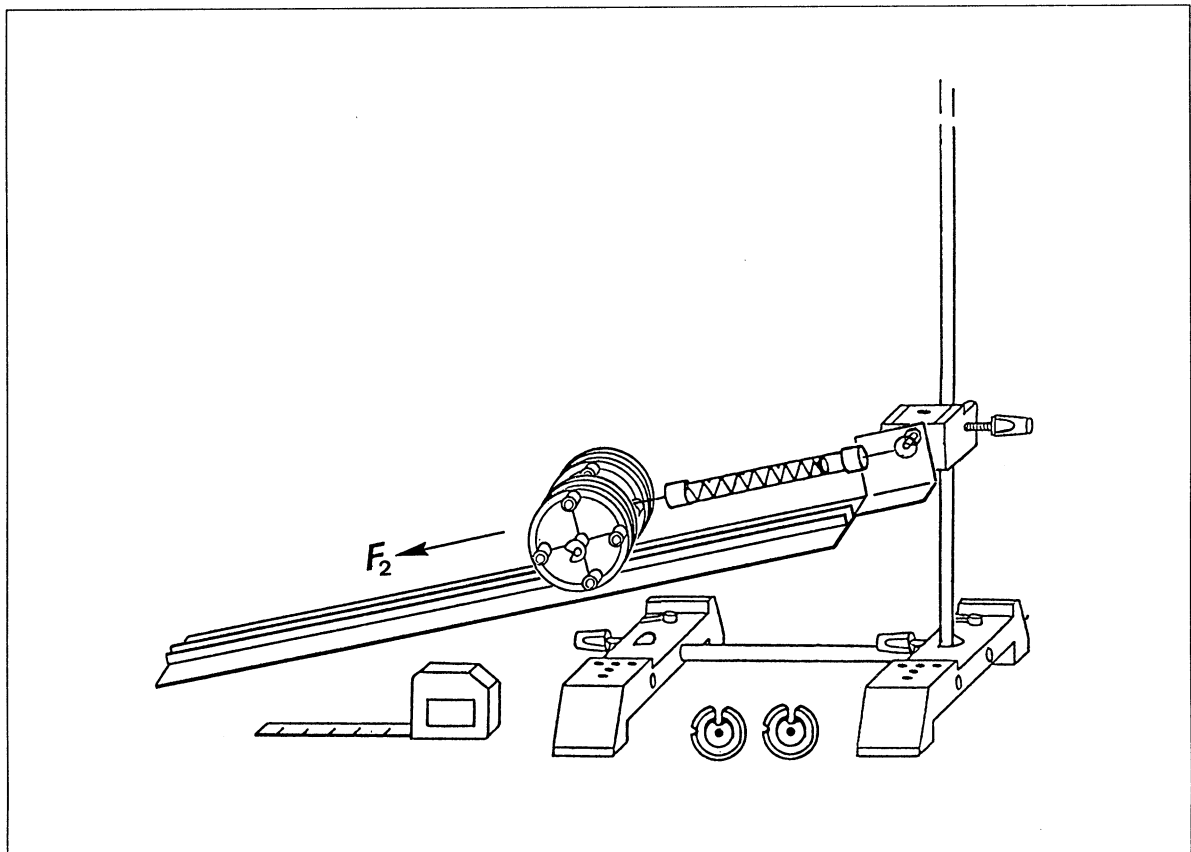
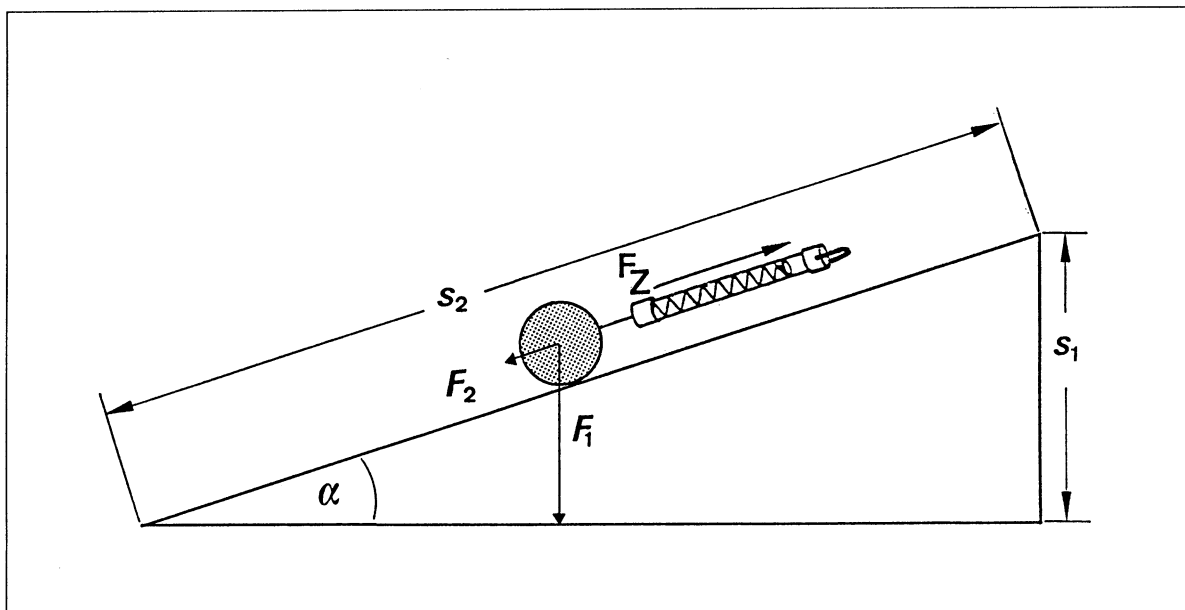

Fig. 1 Inclined plane: measuring downward force due to slope F_2
Fig. 3 Distances and forces at work on an inclined plane
1. Assemble the stand bases, stand rods and universal sleeve. ► Fig. 1
- ▶ Fig. 1 / Fig. 3.